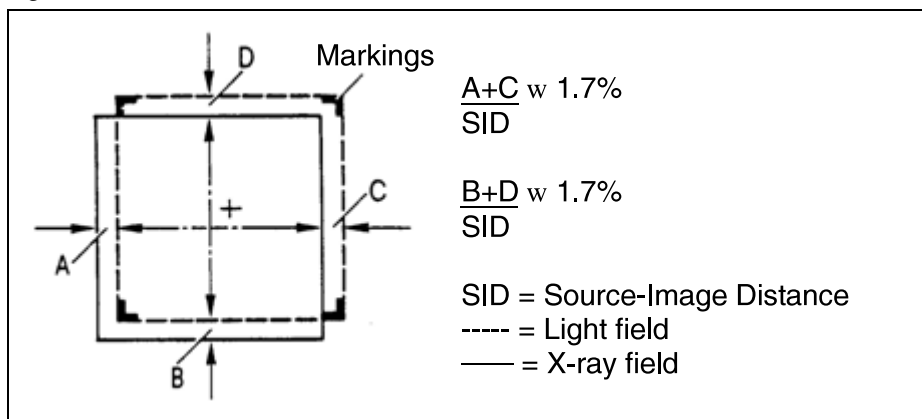

Fig. 34:
- Develop the film and measure the deviation between the light and radiation fields. A deviation of  $\pm 1.7\%$  of the SID is acceptable. (Fig. 34 / p. 55) .